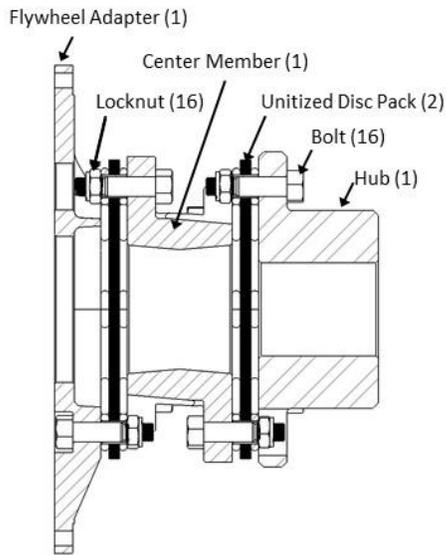

Figure 2: GC Model
- d) Move the equipment to be connected into position. Set the gap to the required distance between shaft ends, DBSE dimension. See Fig. 2 or 3 and Table 2
- c) As a guide, the "DBSE" dimensions are given for GC and GA couplings, along with dimensional tolerances recommended for initial installation. Additional capacity is available to compensate for thermal and structural movement. Maximum axial capacity values for these couplings are also given. See Table 2 and Figures 2 & 3.
With the coupling in good alignment, the bolts will fit through the holes in the flanges and the disc packs more easily. See Figures 2 and 3.
- i) On a workbench, or floor, assemble one unitized disc pack to the center member and flywheel adapter, installing all bolts as shown in Figure 2 or 3.